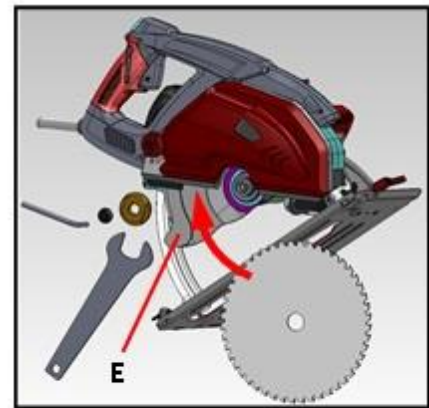

Fig.4
4. Remove wrenches and open blade guard to remove arbor screw, flange and blade. **Fig. 4.**